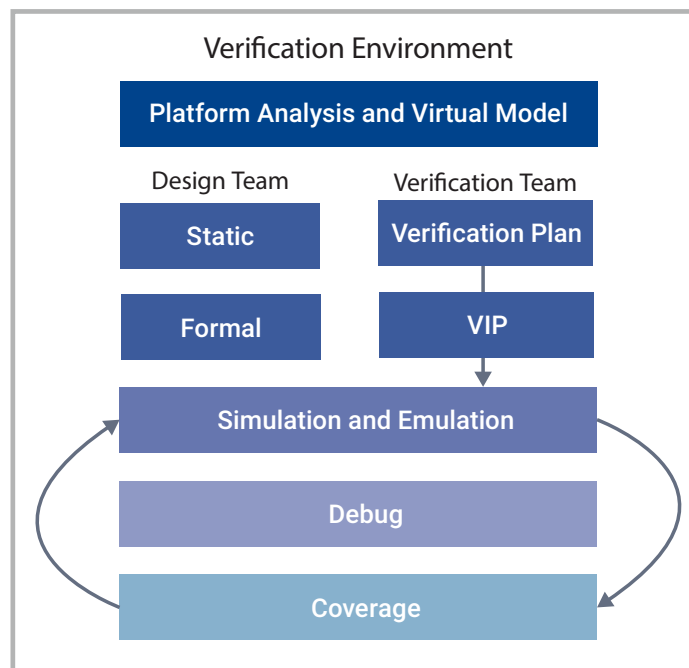

Figure 2: High-level view of the chip verification flow
AI techniques, many based on machine learning (ML), can dramatically improve all three dimensions of chip verification. Figure 2 shows a high-level view of a typical verification flow. Before the register transfer level (RTL) code is written by the designers, the architecture team builds a virtual model of the chip and analyzes system performance. When key decisions have been made, the design team develops the RTL model. This is best accomplished by using an integrated development environment (IDE) with powerful language linting to catch coding errors that would otherwise consume time and resources to fix later in the project. Once lint errors are fixed, the first step in verification is usually performed by the designers themselves: running static verification tools to detect structural errors in the design.